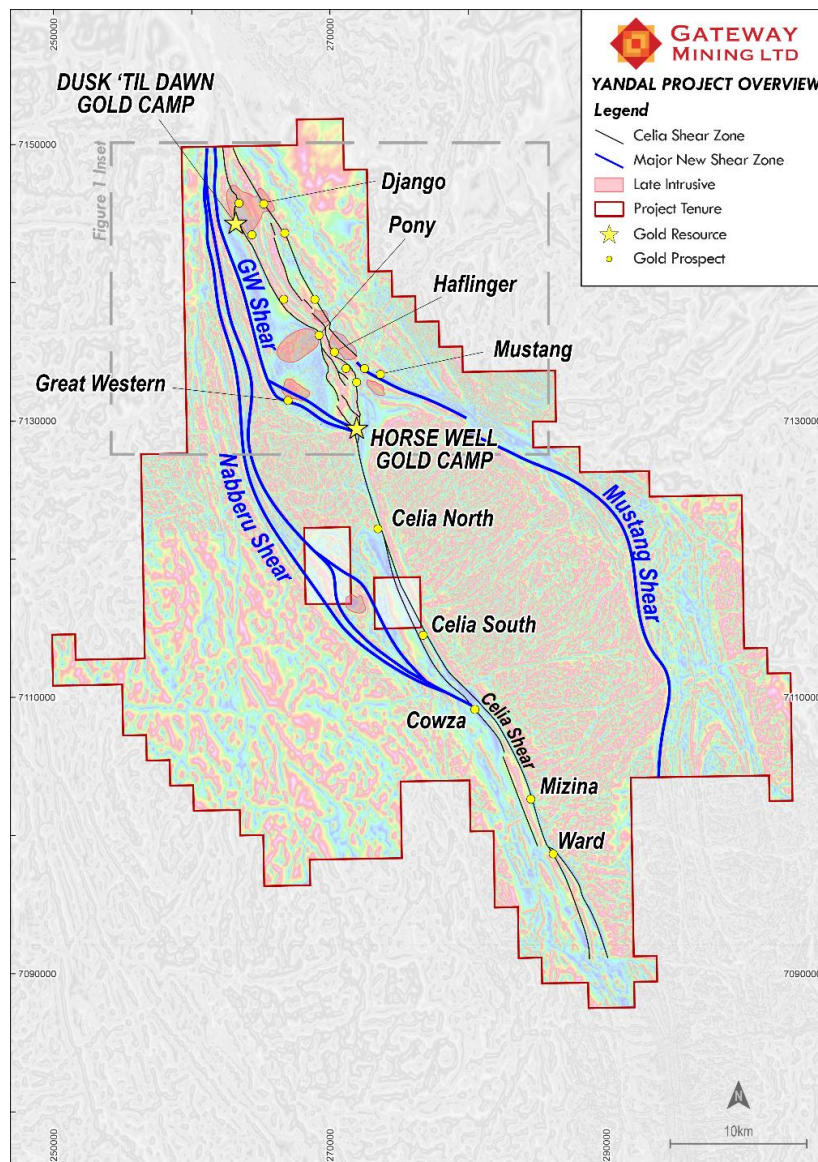

Figure 5: GML Yandal North Project Area
Gateway Mining Limited (ASX: GML) (**Gateway** or **Company**) is pleased to provide an update on its Yandal Gold Project in Western Australia (Figures 5 and 6) and provide the results of Induced Polarisation (IP) surveys that have been completed across Pony-Mustang and Dusk 'til Dawn. This work was undertaken by Moombarriga Geoscience and follows on from the recent gravity inversion modelling (please refer to ASX announcement of 9th September 2025) and bottom of hole (BOH) sampling that delineated several late-stage Mo-Bi-Te-Cu intrusions (sanukitoids), which Gateway believes are associated with the known gold mineralisation.